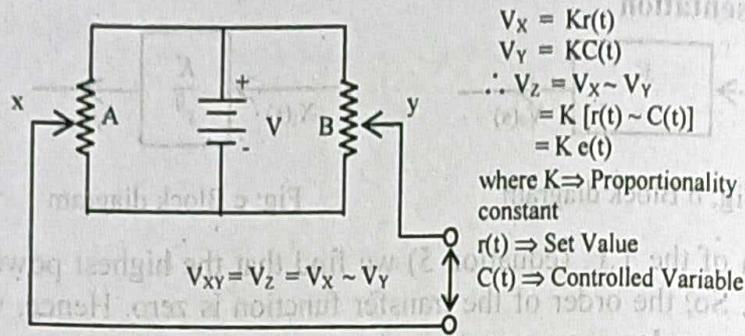

Fig: 4 Potentiometric error detector
• **Circuit Arrangement:** Fig. 4 shows the circuit arrangement of a potentiometric error detector.
**Step 1:** One of the potentiometers, say A, in figure 4, is used to generate reference signal through its wiper. The position of the wiper (x) corresponds to an electrical signal ( $V_x$ ).